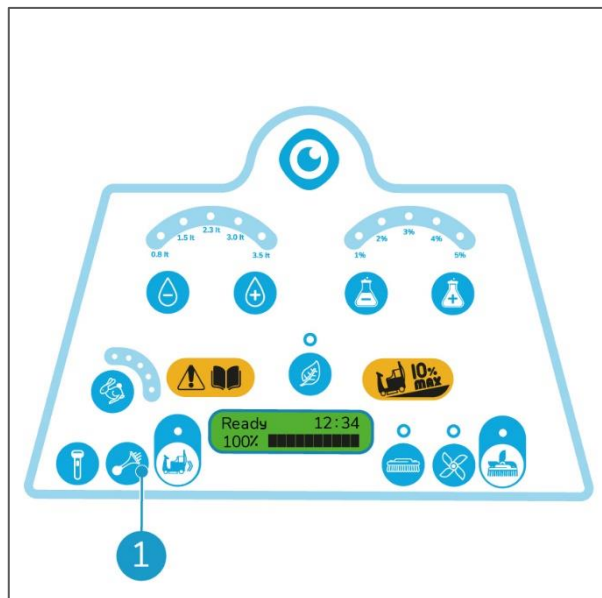

Figure 26
1. Push the horn button (Figure 26, pos 1) to sound the horn.